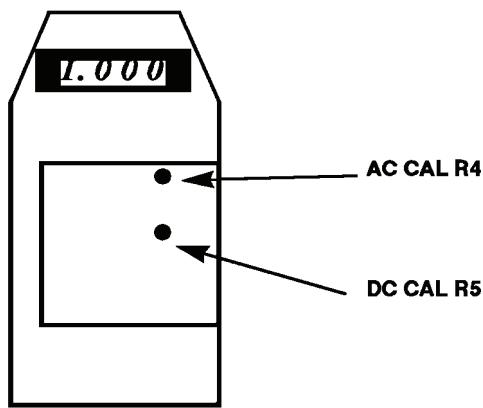

Figure 1. Adjustment locations.
(1) Connect calibrator **OUTPUT** terminals to TI **V** and **COMMON** terminals.
(2) Press TI range pushbutton and set calibrator output as specified in table 3. If TI does not indicate within the specified limits, perform **b** below.
b. Adjustments. Set TI range to **200 mV** and calibrator for a 190 mV dc output. Adjust DC CAL R5 (fig. 1) for a TI indication of 190.0 (R)
- (1) Press DC/AC pushbutton to AC (in) and press the **200 mV** range pushbutton.
- (2) Set TI range and calibrator for voltages and frequencies listed in table 4. TI will indicate within the specified limits; if not, perform **b** below.
- b. Adjustments.** Set TI range to **200 mV** and calibrator for a 190 mV, 45 Hz output. Adjust AC CAL R4 (fig. 1) for a TI indication of 190.0 (R).